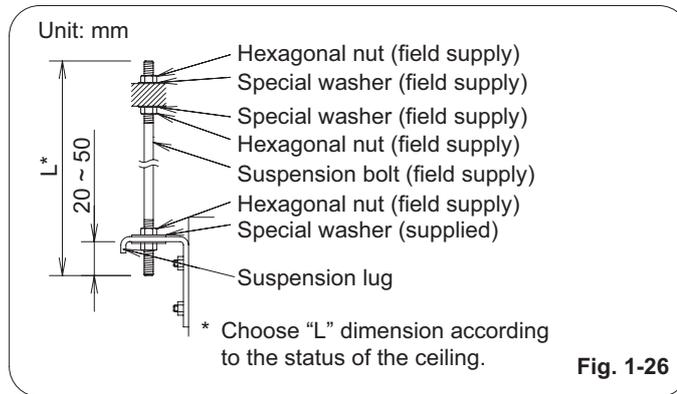

Fig. 1-26
- (3) Suspend and fix the indoor unit using the 2 hexagonal nuts (field supply) and special washers (supplied with the unit) as shown in Fig. 1-26.